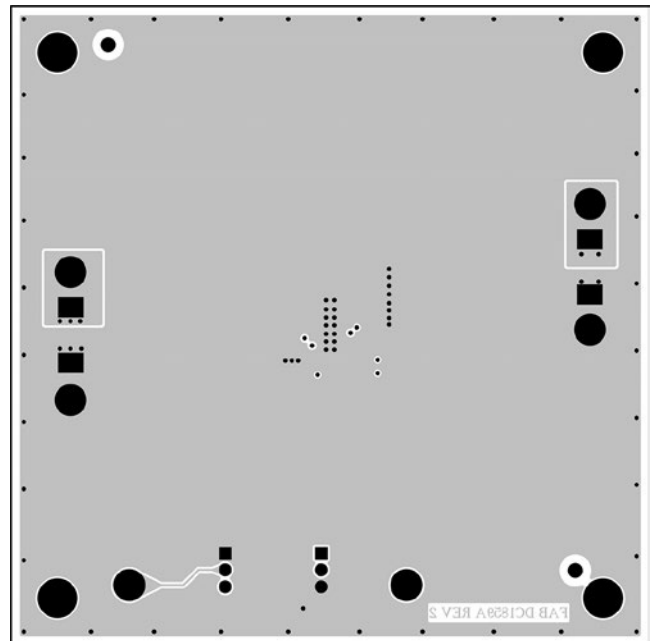

Figure 6. Example PCB Layout
The LTC3124 switches currents as high as 4.5A at high frequencies. Special attention should be paid to the PCB layout to ensure a stable, noise-free and efficient application circuit. Figure 6 presents the LTC3124's 4-layer PCB demo board layout (the schematic of which may be obtained from the Quick Start Guide) to outline some of the primary considerations. A few key guidelines are outlined below:
1. A 4-layer board is highly recommended for the LTC3124 to ensure stable performance over the full operating voltage and current range. A dedicated/solid ground plane should be placed directly under the VIN, VOUTA, VOUTB, SWA, and SWB traces to provide a mirror plane to minimize noise loops from high di/dt and dV/dt edges (see Figure 6, 2nd layer).
2. All circulating high current paths should be kept as short as possible. Capacitor ground connections should via down to the ground plane in the shortest route possible. The bypass capacitors on VIN should be placed as close to the IC as possible and should have the shortest possible paths to ground (see Figure 6, top layer).
- Crossover connections should be made on inner copper layers if available. If it is necessary to place these on the ground plane, make the trace on the ground plane as short as possible to minimize the disruption to the ground plane (see Figure 6, 3rd layer).